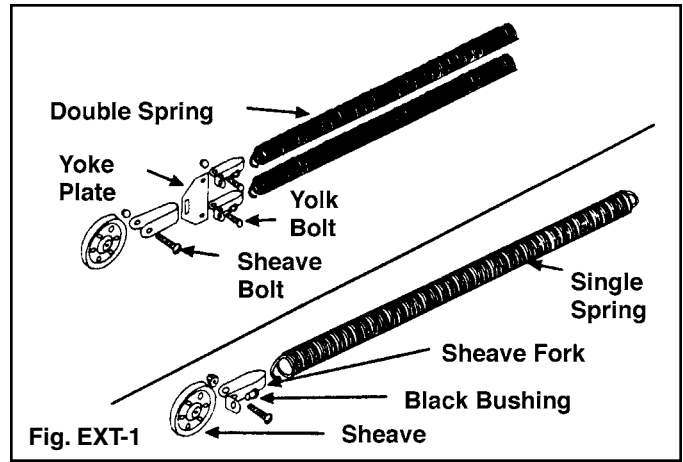

Fig. EXT-1
**Step 1:** Some doors will be supplied with two springs and some will have four. Assemble springs with sheaves on the floor. A 3/8" x 1-1/4" bolt and nut are used to attach the sheave. (FIG. EXT-1)